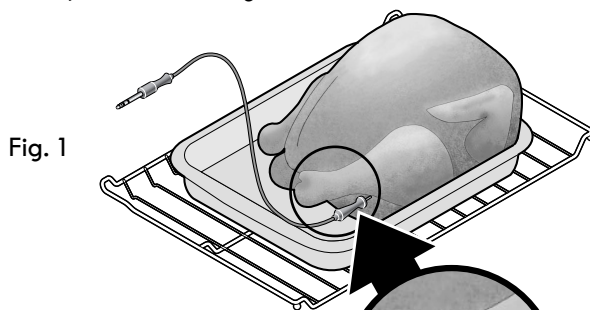

Fig. 1
- For whole poultry or turkey, insert meat probe into the thickest part of inner thigh, below the leg (See Fig. 1).